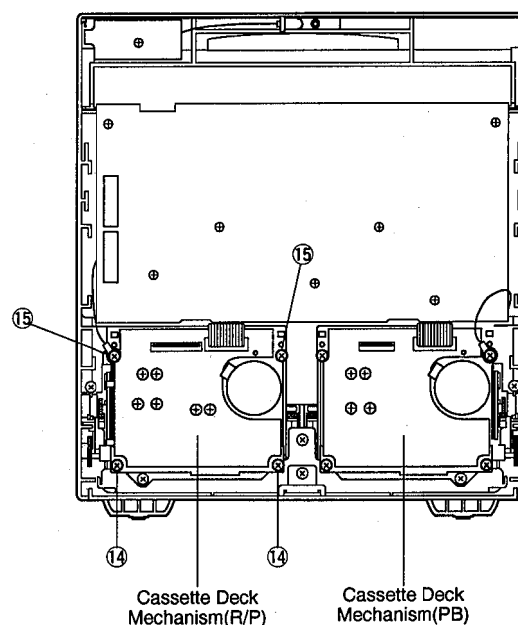

Fig. 14
Remove 2 screws (14) and 2 screws (15), and then pull out the Cassette Deck Mechanism in Fig. 14.